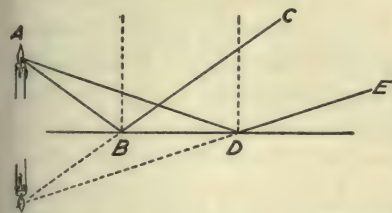

FIG. 115.—The image is a duplicate of the object, but appears to be behind the mirror.
**Why the image seems to be behind the mirror.** — If a candle is placed in front of a mirror,  $BD$  in Figure 115, one of the rays of light which leave the candle will fall upon the mirror as  $AB$  and will be reflected as  $BC$  (in such a way that the angle